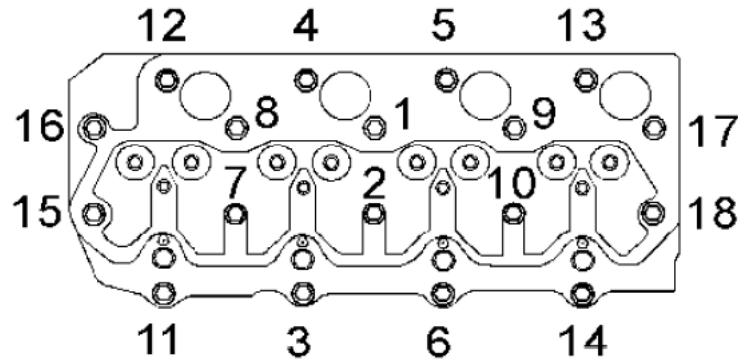

Figure 3. Head Bolt Torque Sequence
2. Repeat the procedure in step1 to ensure that all of the bolts are tightened to the correct torque and sequence in Figure 3.